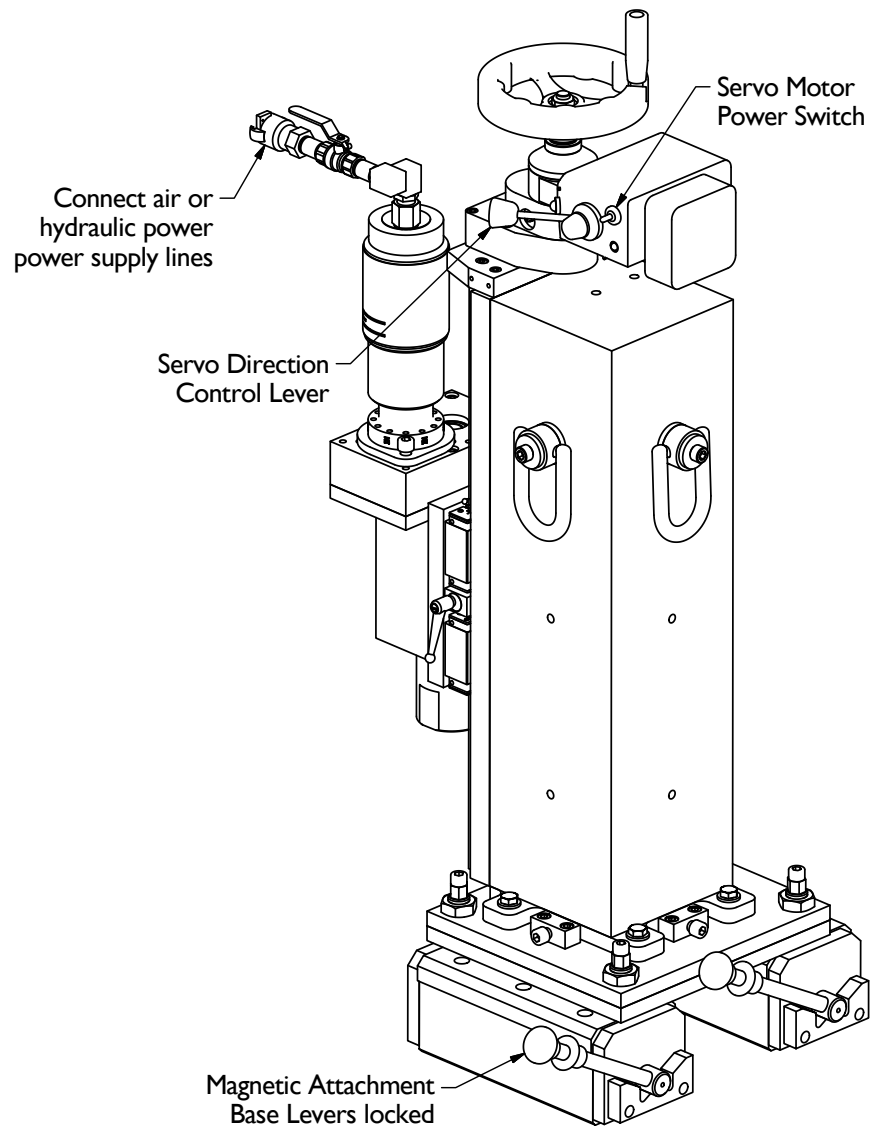

Figure 6 - Connect Power Supplies
- I. Connect the air or hydraulic power supply lines to the spindle motor. Connect the servo motor to a 110v electrical power supply. Move the servo direction control lever to the center 'stop' position. Make sure the magnetic attachment base levers are in the locked position. See Figure 6.